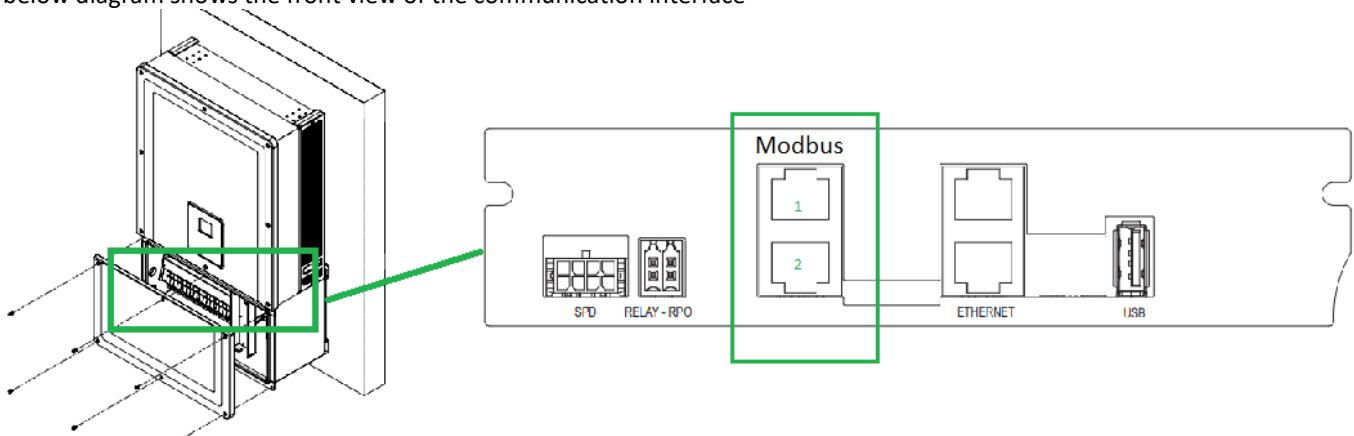

Figure S1 –Locating Communication card in Schneider Electric
- Please unscrew the inverter and check the communication interface as shown in Figure S1.